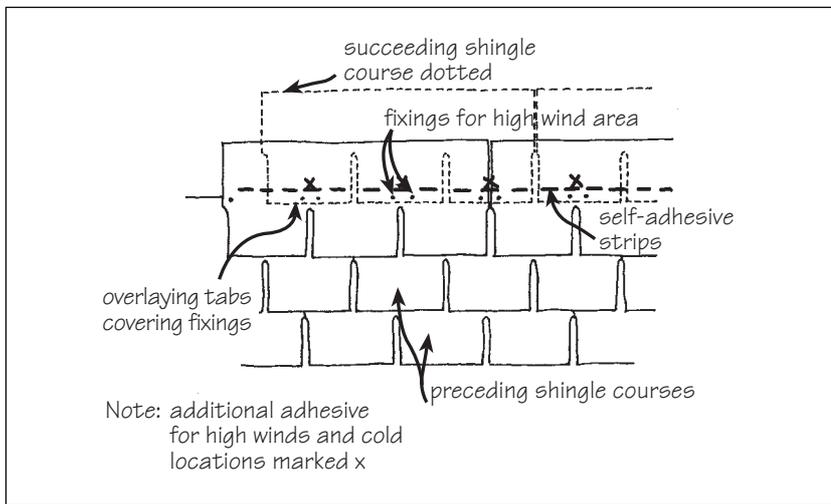

Figure 4. Shingle fixings.
3.6.3 Locate fixings so that each successive course covers the fixings of the preceding course (Figure 4). The